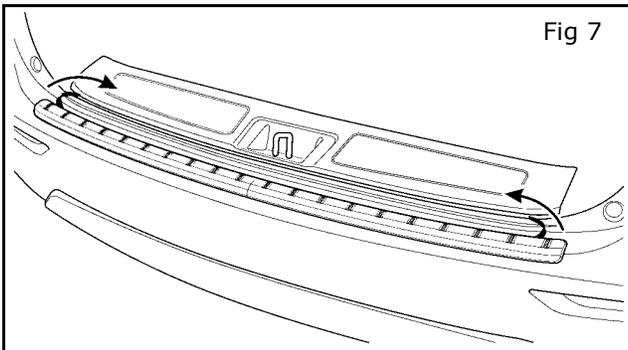

Fig 7
- 14) Remove front tape liners. (Fig 7)